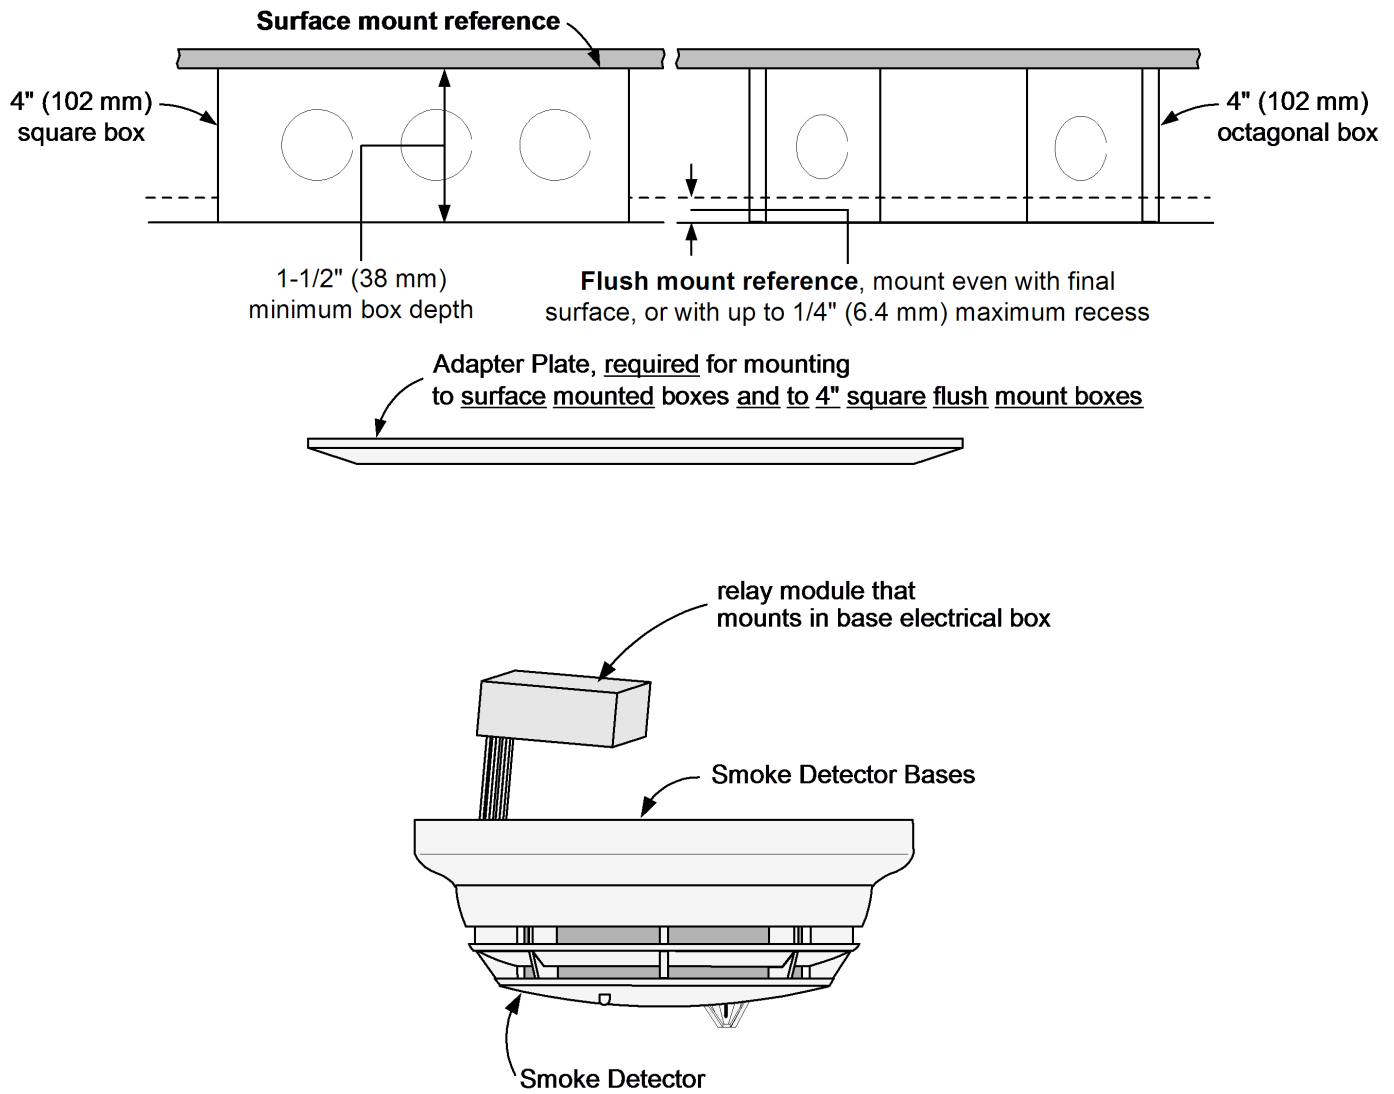

Figure 4: Mounting Information
- Figure 4 shows 4098-9832 adapter plate, required for mounting to surface mounted boxes and to 4" square flush mount boxes.
- Figure 4 shows smoke detector bases A4098-9788, A4098-9682, and A4098-9683.